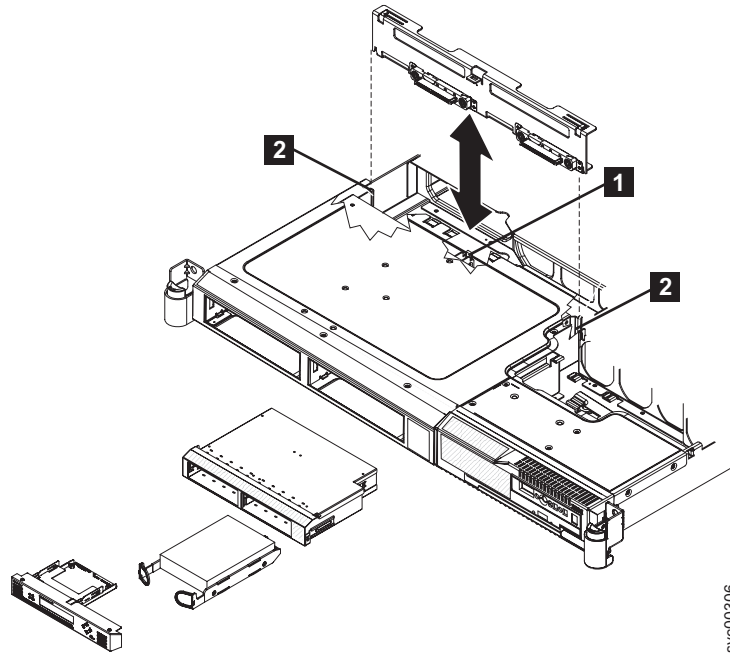

Figure 124. Removing the SAN Volume Controller 2145-8G4 SATA cable assembly with backplate
8. Press the locking tab **1**, which is shown in Figure 124 on page 397, and lift the backplate out of the node slightly. Disconnect the power cable and remove the backplate.